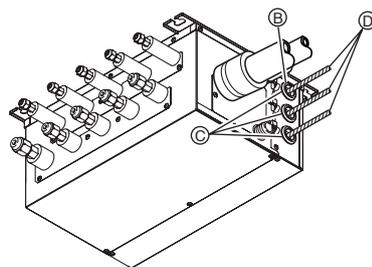
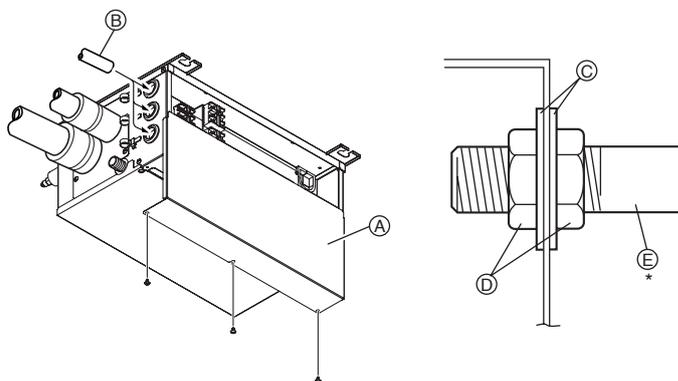

Fig. 14
Fig. 16
- 3) Pass the wiring into the branch box. (Fig. 14)
- 7) When the branch box is installed outdoors, ensure that the wiring inlets are sealed with putty to prevent entry of rainwater. (Fig. 14)
- (A) Electric cover
- (B) 3-Bush
- (C) Seal
- (D) Wiring
- (E) BC controller
- (F) Band
- (G) Terminal block: TB2B <To outdoor unit>  $\phi 1.6 \sim \phi 2.0$
- (H) Terminal block: TB3A-TB3E <To indoor unit>  $\phi 1.6$
#### (7)-1 When using wiring conduit (Fig. 16)